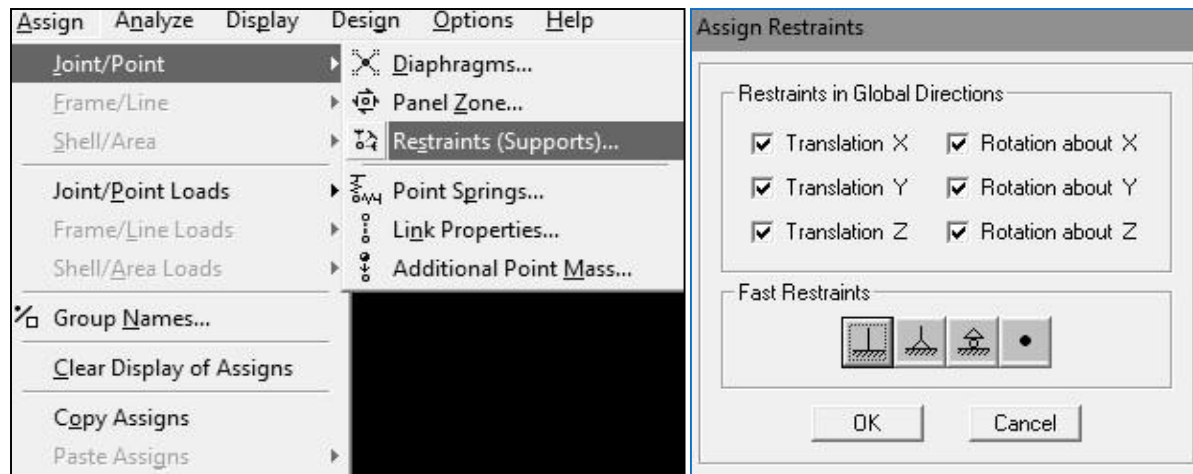

Fig: 3.7
4.1. Support Assign: Select the support point → Assign → Joint/Point → Restraints (Supports) → Then select support type (Fixed, Pin, Roller) by clicking on symbols → OK. (Fig: 3.7)